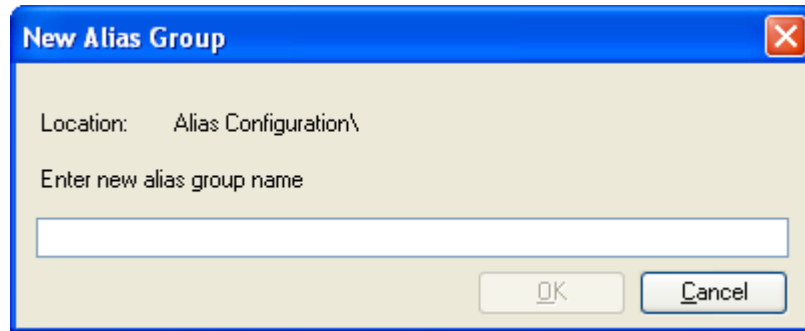

Figure 24 - New Alias Group Window
3. The **New Alias Group** window (Figure 24) appears.